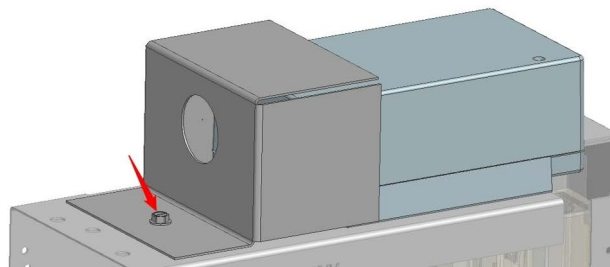

Fig. 20 Sheet Metal Cover Plate
2. Secure the sheet-metal cover plate included in the kit to cover the Smart Start Assist terminal block. Refer to Fig. 20.